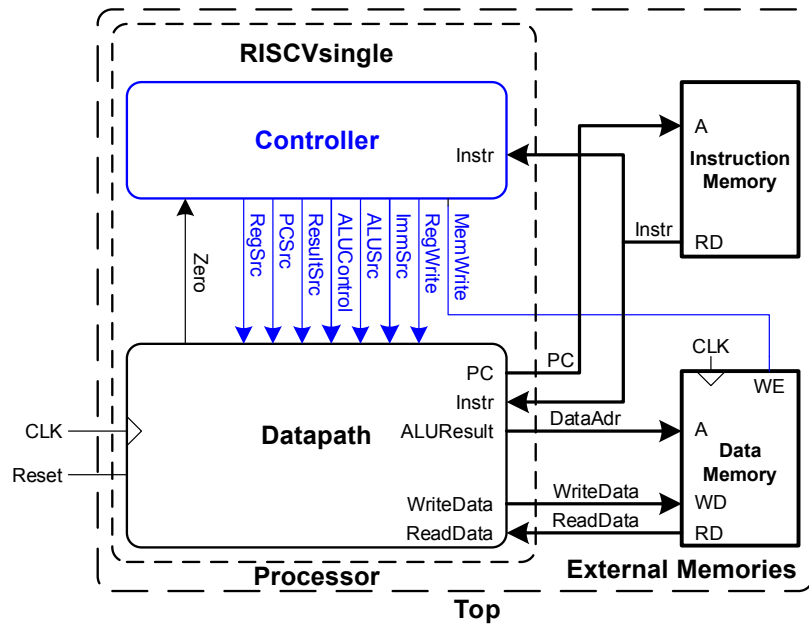

Figure 2: Single-cycle processor interfaced to external memories
Figure 2 (near the end of this lab) shows the high-level hierarchy of the single-cycle processor including the connections between the controller, datapath, instruction memory, and data memory. Your multi-cycle processor has only a single unified memory and has slightly different control signals, so you will need to modify these connections. Sketch a diagram similar to Figure 2 showing your controller, datapath, and memory modules. Draw a box for the `riscv` module that should encompass the controller and datapath. Label the signals passing between blocks.
- Copying the single-cycle processor top, riscv, or datapath interface with signals that don't match the multi-cycle processor. Be sure you have a clear idea what belongs in each module. You will likely save time if you sketch a picture similar to Figure 2 and identify what signals flow between the riscv and memory modules.